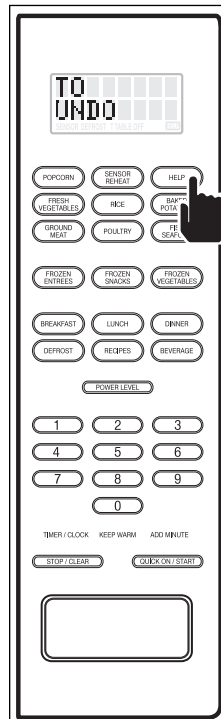

Figure 3-70.
4. For this example, to switch the Child Lock Feature off, press the HELP key again and "TO UNDO - CHILD LOCK - PRESS CLEAR" will flash on the display (See Figure 3-70).